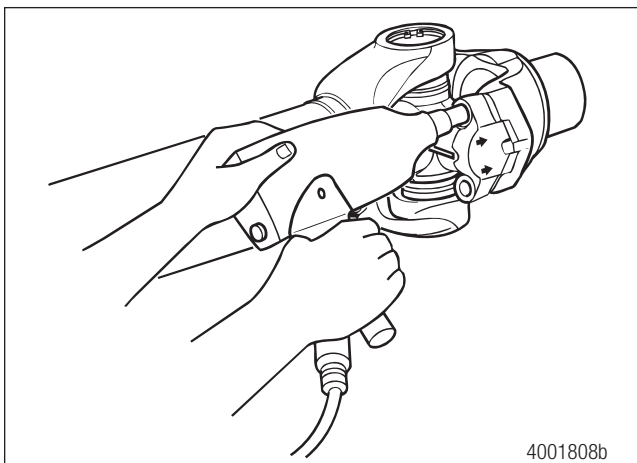

Figure 5.25
2. Use a 12-point socket to loosen the four bolts (1/2 x 20-inch thread) located in the weld yoke end of the driveline. Figure 5.25.